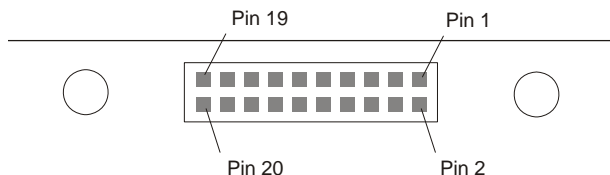

Figure 38: Top-view of 20-Pin Connector on the OEMV-1G
- g. See also *Figure 38* on *Page 110* and its table.